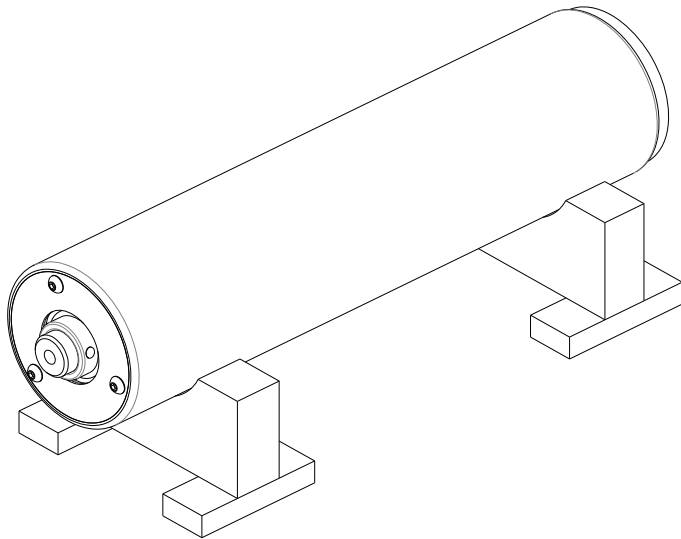

Figure 48
Carefully lower the ground roll out of the station frame and move to a safe location. Lower the roll onto wooden supports (3) to prevent the roll face from being damaged by contact with the ground or other work surfaces (**Figure 48**).